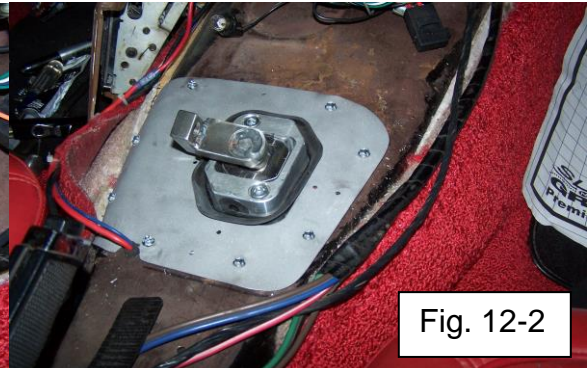

Fig. 12-2
- Install shift tower to body seal with open flange up. Press body seal down into gap between shift tower and patch panel opening. See Fig. 12-2.